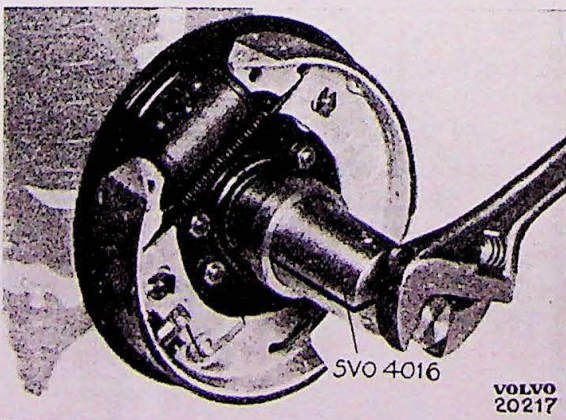

Fig. 8.
inner bearing inner ring (13) by means of SVO 4016 (Fig. 8) (PV 444 C: SVO 1794).